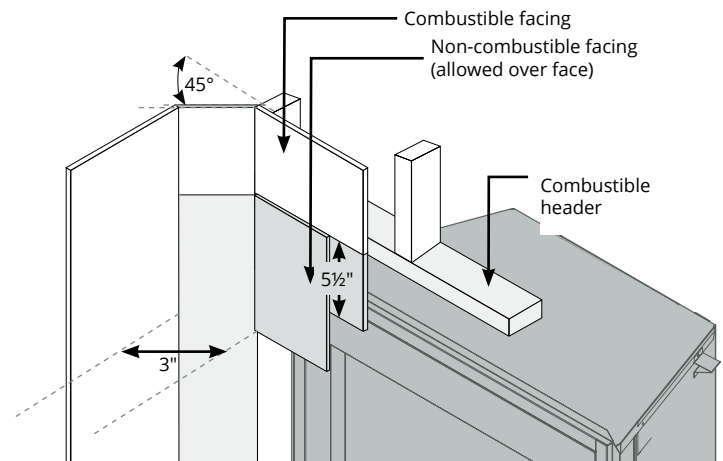

Figure 3b. Non-combustible surrounds and sidewall clearances.
**All fireplace facing must be non-combustible.** Non-combustible mantels and mouldings **may** be safely installed over the top and on the front of the fireplace provided that they do not project beyond shaded area shown in **Figure 3**. Side wall clearances are 3". Only non-combustible surrounds may be installed around and on the facing of the fireplace as shown in **Figure 3b**.